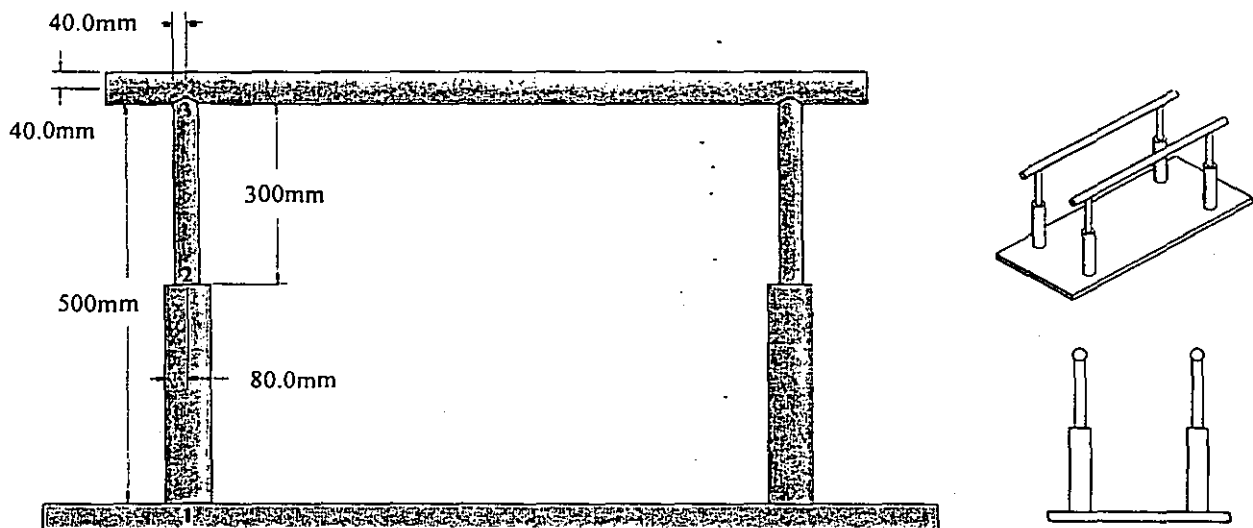

Figure 1. A designed parallel bar to be used by patients at an orthopaedic centre
An orthopaedic centre in Ghana has contracted a Biomedical Engineer to design a rehabilitative device in the form of parallel bars to aid the work of their physiotherapists. The device is to be used mainly by adult patients who visit the centre. By modifying existing designs, the engineer ends up with the product shown below in Figure 1. It consists of a ground attachment and two horizontal cylindrical bars. The horizontal bars are supported vertically from the ground attachment by two smaller cylindrical bars of different diameter on each side as shown. It is also made of stainless steel of elastic modulus 192 GPa for all the parts.
- c. For each requirement in 1(b), state two (2) relevant engineering characteristics the engineer would consider for the design in Figure 1.
2. The engineer decides to analyse the effect of an externally applied load on one of the supports between the horizontal bar and ground attachment. The analysis is to ensure that the device does not cause further injury to patients during use by deforming by more than 20 mm under a vertical compressive load of 1000 N applied at node 3 of the support mechanism. The ground attachment is constrained to the ground. Refer to Figure 1 for dimensions.